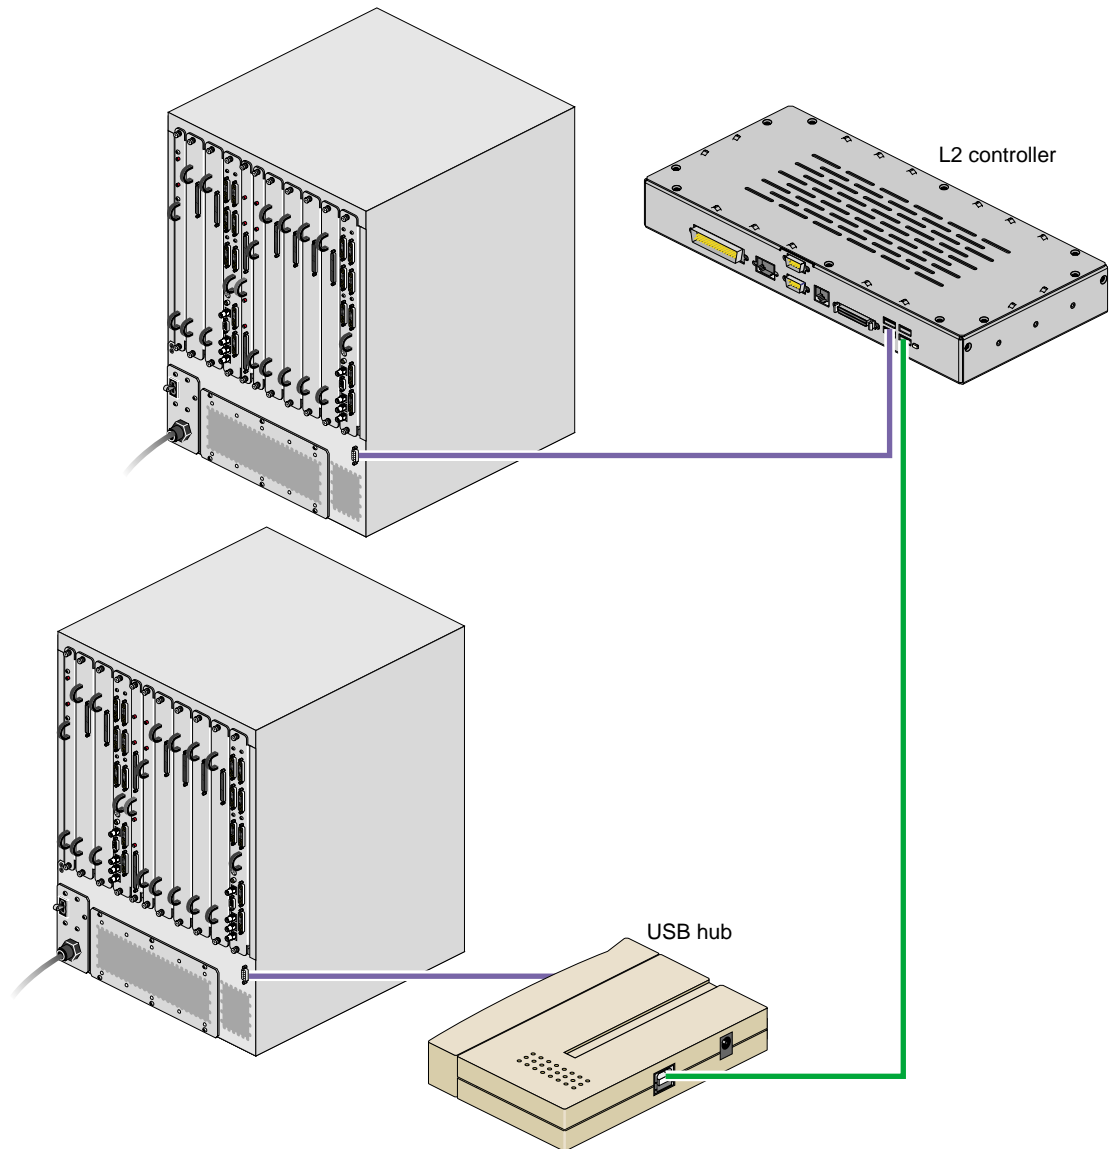

Figure 2-11 InfiniteReality Connections to L2 Controller
- InfiniteReality graphics module (refer to Figure 2-11)